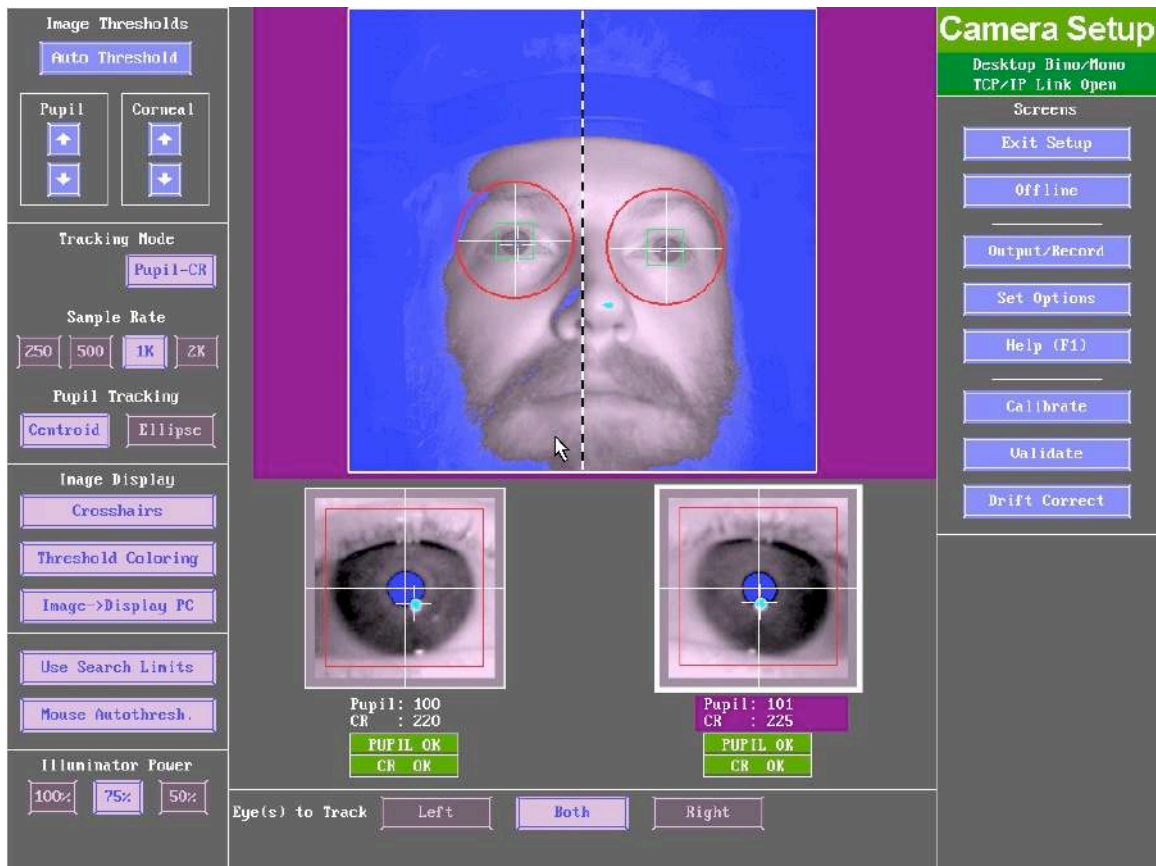

Figure 3-5: Camera Setup Screen Desktop Mount, Binocular Recording
- 2) Adjust the position/angle of the desktop mount so that eyes appear in the center of the global view of the camera image. A dotted vertical line is drawn in the camera image to represent the hemifields in which the left and right eyes will appear (see Figure 3-5). Make sure the dotted line is between the two eyes (**even if the binocular mode is used for monocular eye tracking**). Move the Desktop Mount to the left or right or loosen the knobs and adjust the camera angle slightly so that the illumination level and pupil/CR threshold values are similar between the two eyes. For the redesigned desktop mount, the dotted line may not align with the center of the face precisely.